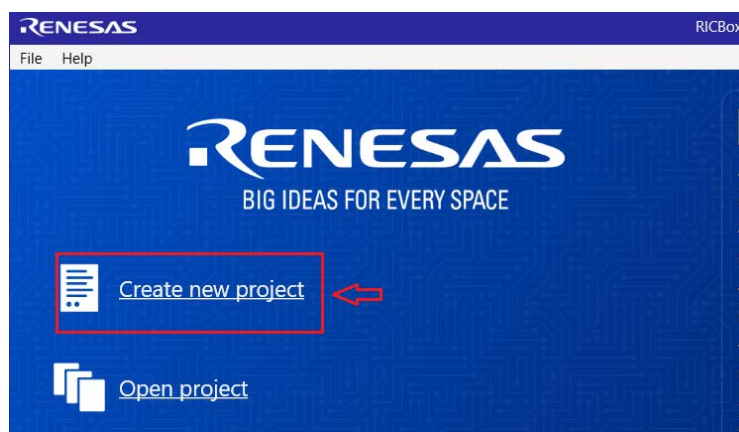

Figure 3. Create New Project Window
4. Start a new configuration. Click *Create New Project* (see Figure 3)